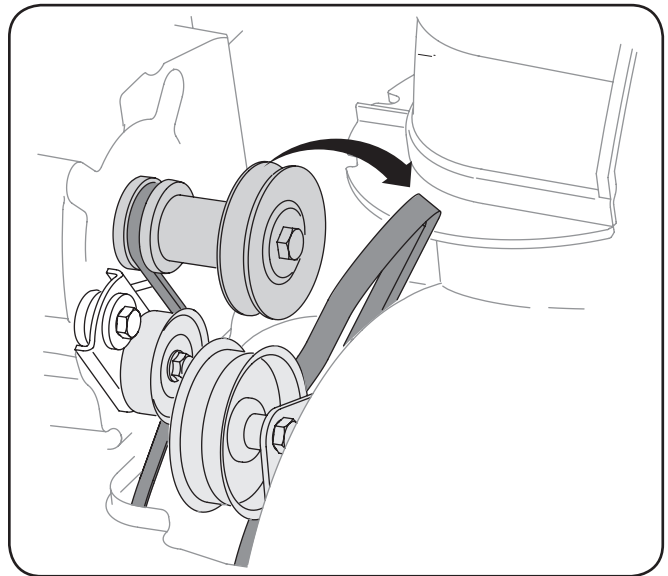

Figure 7-3
4. Roll the auger belt off the engine pulley. See Figure 7-3.